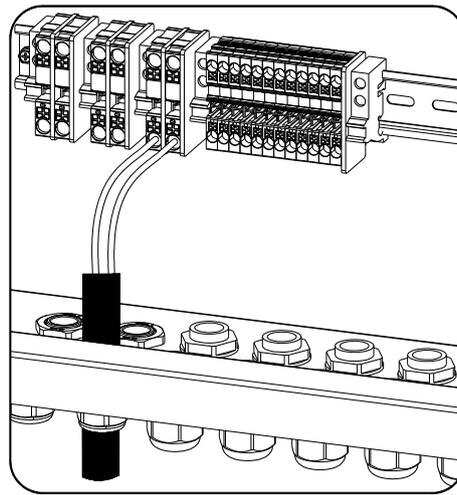

Figure 7 Single-phase AC Line Wiring Diagram
- As shown in Figure 7, the single-phase AC line is connected to the terminal.